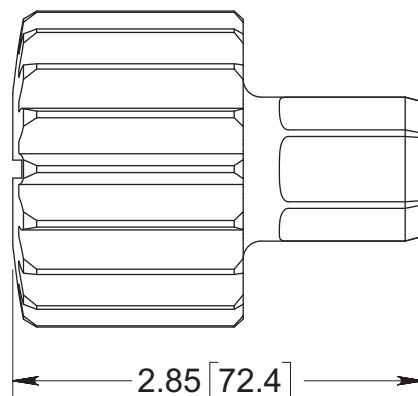

Figure 2: Pinion (DT14521) length
6. Measure the length of the pinions (DT14521). See Figure 2.